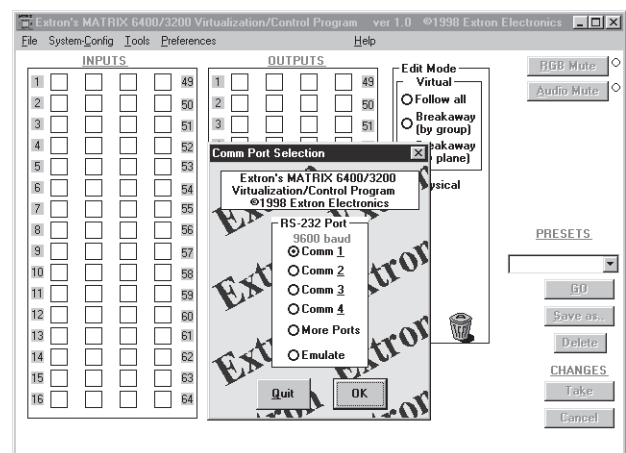

FIGURE 3-6.A
- Ensure that the System has been Virtualized before creating any Rooms. Establish an RS-232 connection between the PC and BME #0 of the Matrix 3200/6400 System. Start the MTRX6400 program (under Windows) and click on the corresponding **COMM PORT** number when asked (Figure 3-6.A). Click **OK**, or.....